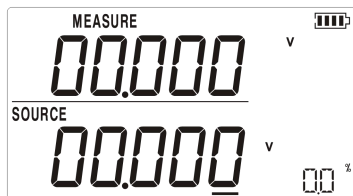

Figure 2.1-5
- Press  for SOURCE mode (lower screen). The screen will display as shown in Figure 2.1-5.